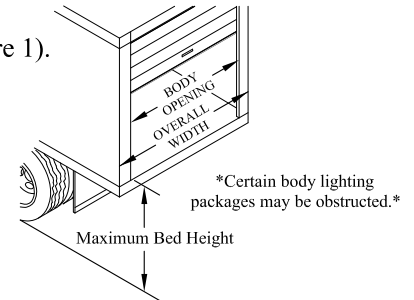

Figure 1: Body opening measurements.
- 1. Measure** the body opening, the overall width, and the maximum bed height of the truck (Figure 1).